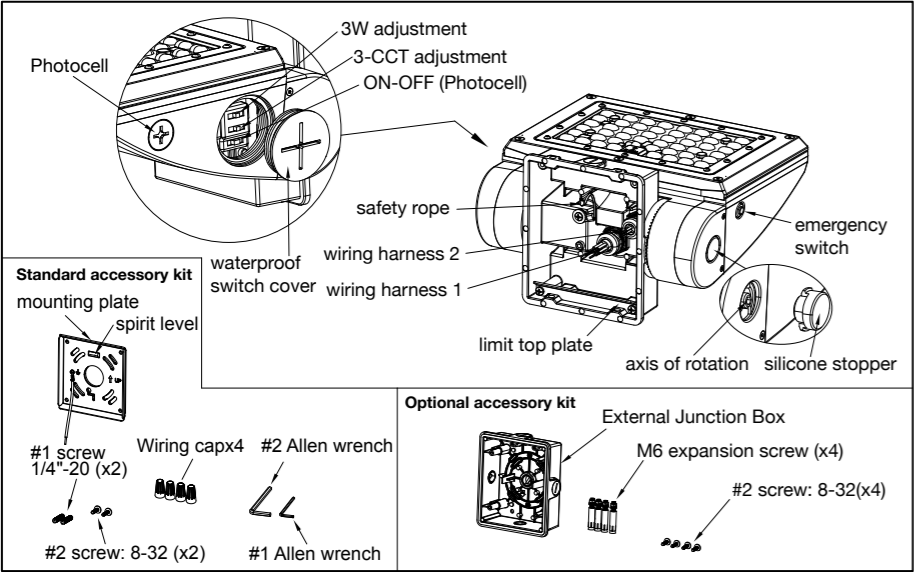

Figure 1
- 10. The lamps are installed by J-BOX on the wall by default. If you need to install on the wall surface, you need to purchase the relevant installation accessories separately (optional accessories package in Figure 1)
2. Three levels of power can be adjusted (Small: 30W/50W/65W; Medium 60W/80W/100W); three levels of color temperature can be adjusted (3000K/4000K/5000K); as shown in Figure 1, it can be seen when the waterproof switch cover is opened;
3. Photocell: When the ambient luminescence is lower than 15lx and has been below the luminance value for 45s, it will be automatically turned on; when the ambient illuminance is higher than 200lx and has been above the luminance value for 45s, it will be automatically turned off; therefore, when installing the lamp, it should be considered that the Photocell should not be placed in an environment with long-term light exposure, otherwise the ON/OFF function will be invalid. The ON/OFF function can also be freely selected by the customer according to the needs, and it can be adjusted by opening the waterproof switch cover, as shown in Figure 1.